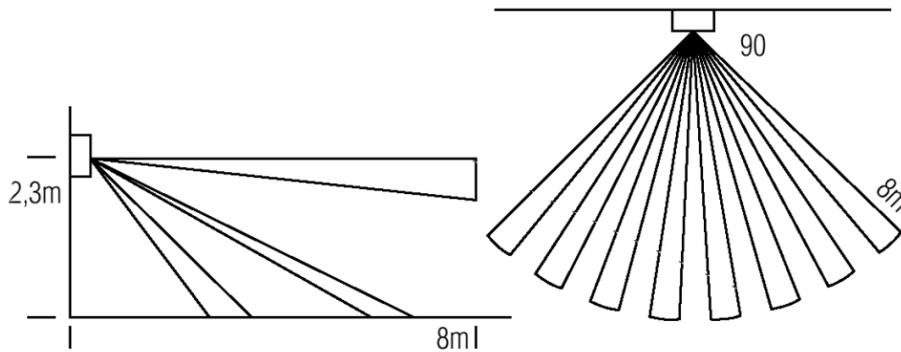

fig. 3
- The PIRs react to warm moving bodies, e.g. a person's movement within their detection range (up to approx. 8m at 90° and a height of approx. 2,3m; see fig.3).